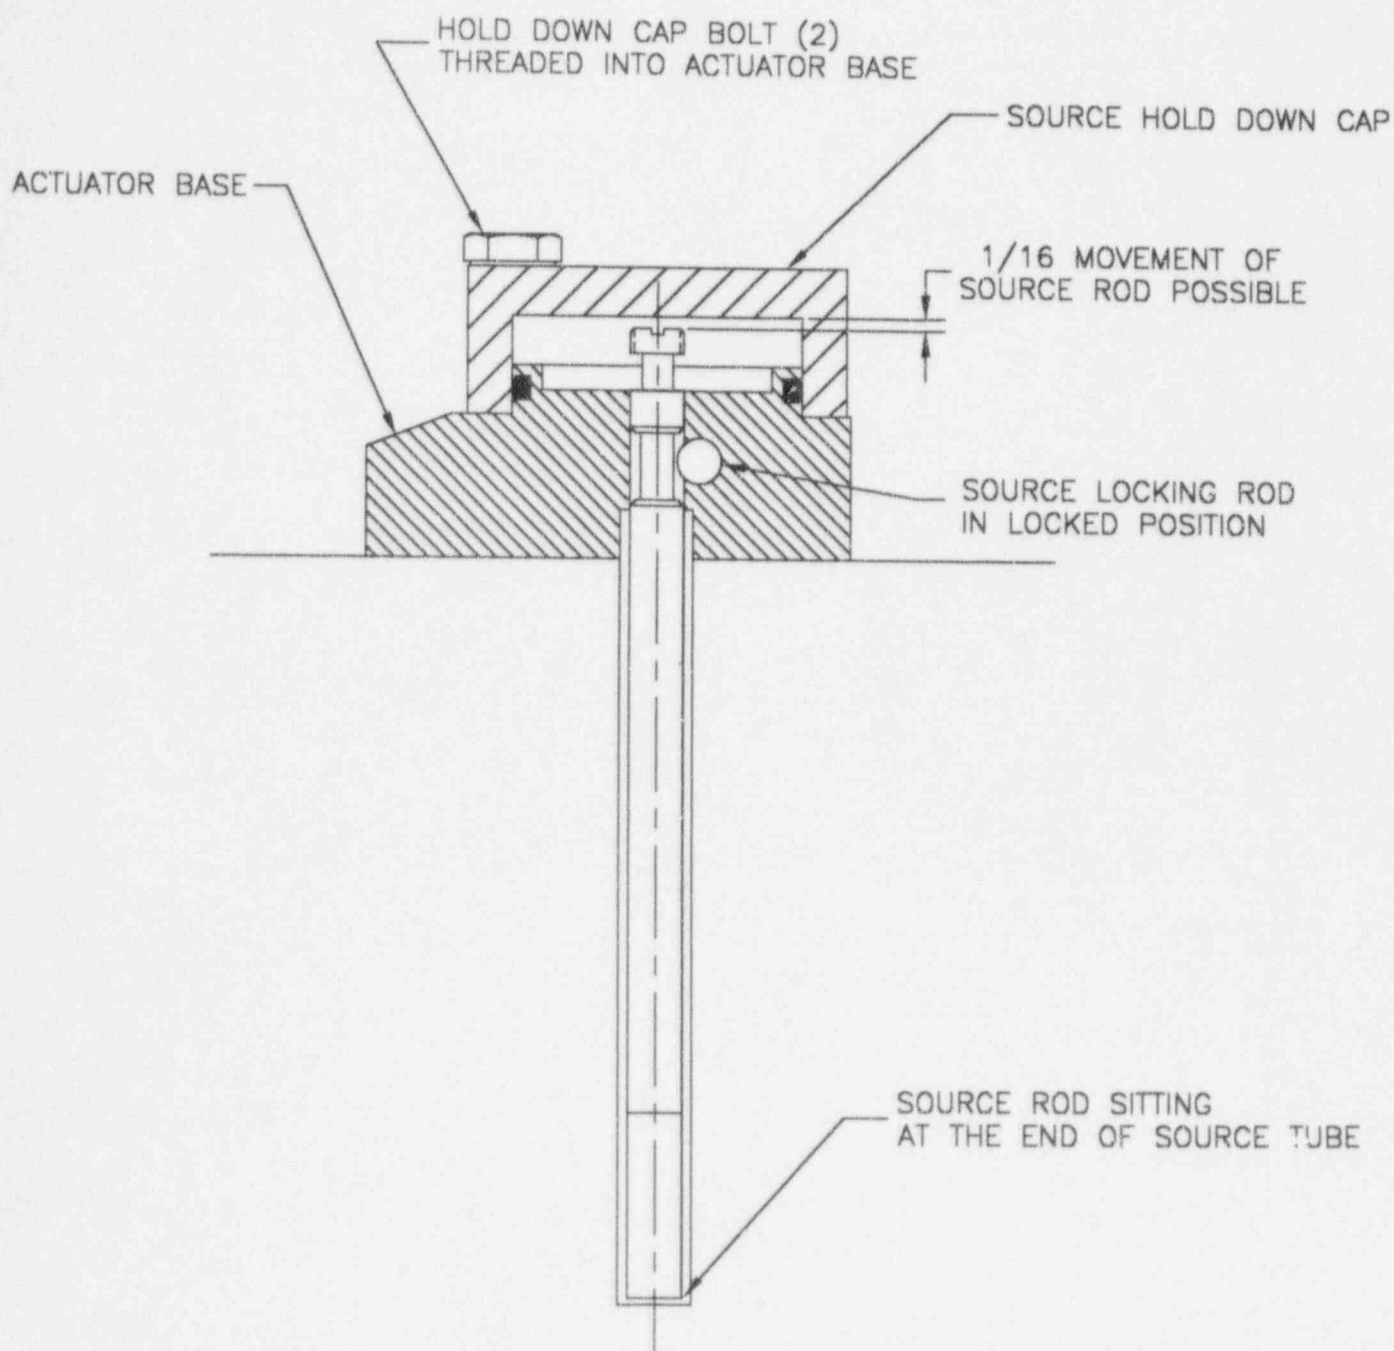
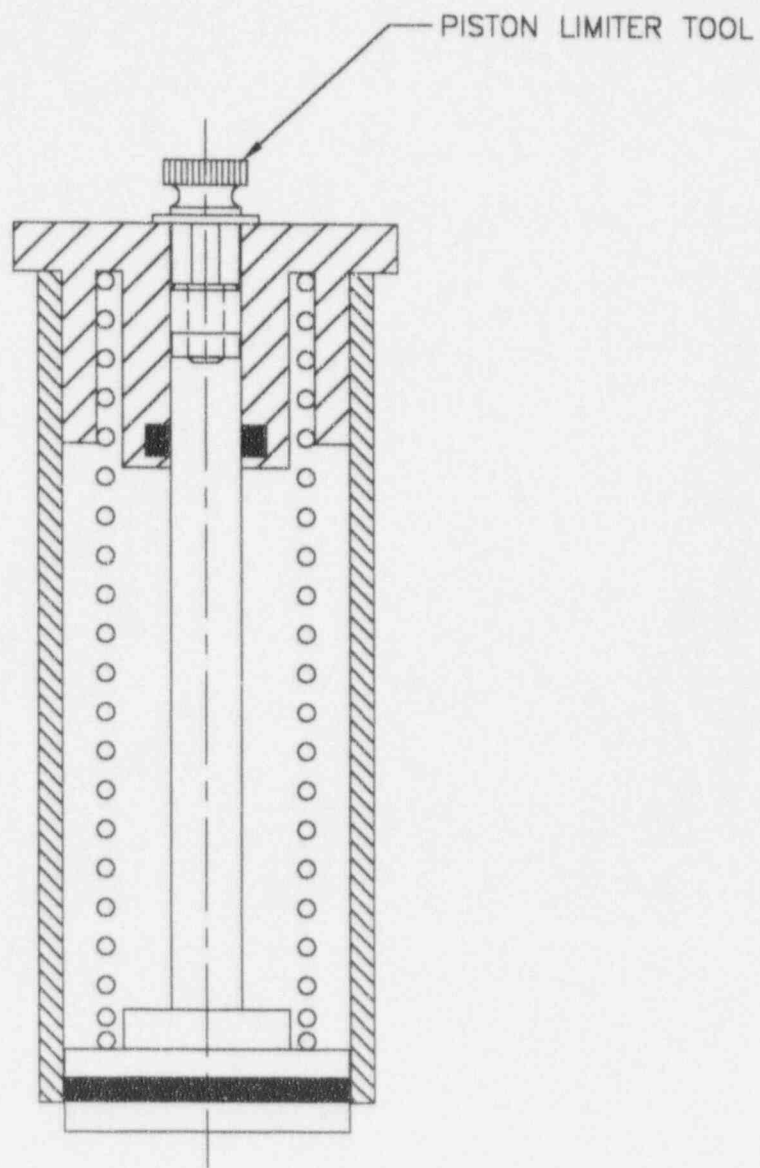

FIG. 3
FIG. 4
- 3) Figure 3 shows the holddown cap in position during performance of maintenance, as can be seen the only possible movement of the source rod is approximately 1/16 inch. This allows the source to remain locked during the performance of the maintenance and when the source holddown cap is removed the source stays in the locked position.
- 4) The piston limiter tool is shown in use in Figure 4 and is designed to keep the actuator assembly together during the removal of the actuator from the body of the device. It does not lock the source in the stored position, the source locking rod in Figure 3 does this. The statement in the letter dated 24 May 1996 was inaccurate in the description of the tool's function, due to a misunderstanding of the engineering description.